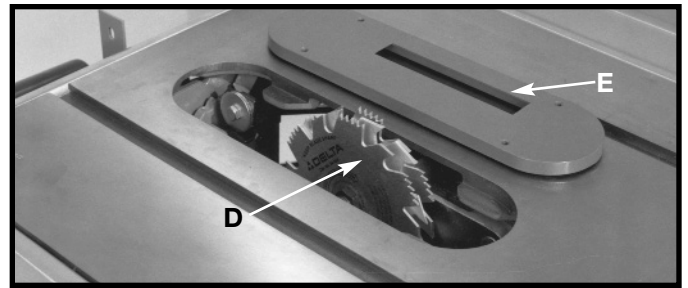

Fig. 57
2. Attach the dado head set (D) Fig. 57, to the saw arbor.
⚠ CAUTION THE ACCESSORY DADO HEAD SET TABLE INSERT (E) FIG. 57, MUST BE USED IN PLACE OF THE STANDARD TABLE INSERT.